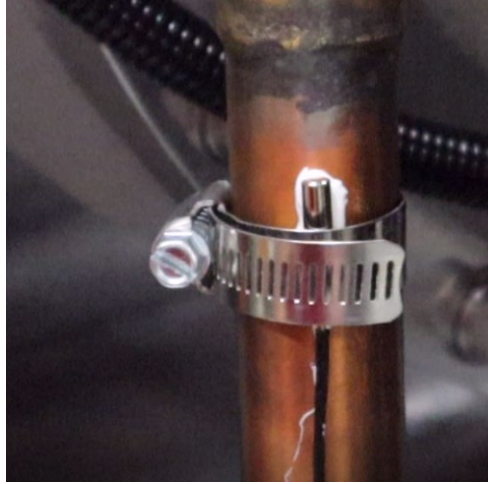

Figure 1 – Sensor Location
2. Apply a small amount of thermal paste to where the sensor will be located and then set the sensor in place. Refer to Figure 1 – Sensor Location.